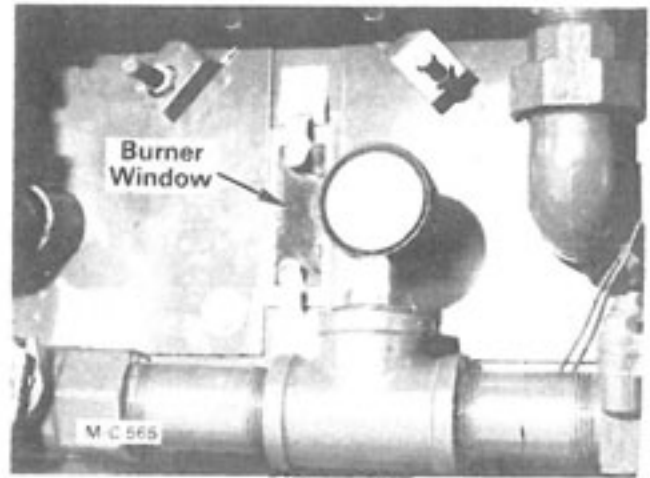

Figure 16
3. Observe the burner flame through the window behind the gas manifold, see Figure 16. The flame should be blue with a little orange in it and have a bushy ball shape.